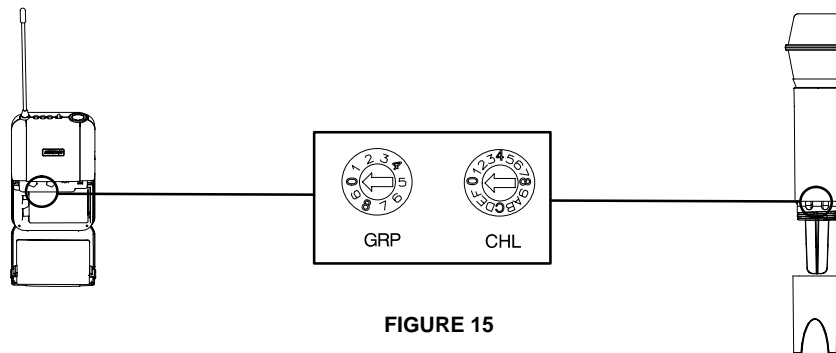

FIGURE 15
1. Turn the transmitter off and open the battery compartment to expose the GROUP and CHANNEL switches. Refer to Figure 15.